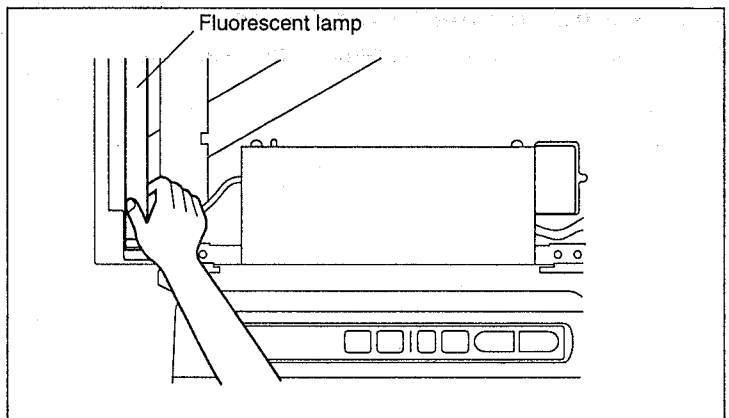

Fig. 7-32
- 3) Twist the fluorescent lamp 90 degrees to remove it as shown in Fig. 7-32.
**Note:** Because access to this lamp is limited, please twist the lamp as shown in Fig. 7-32 from the bottom.